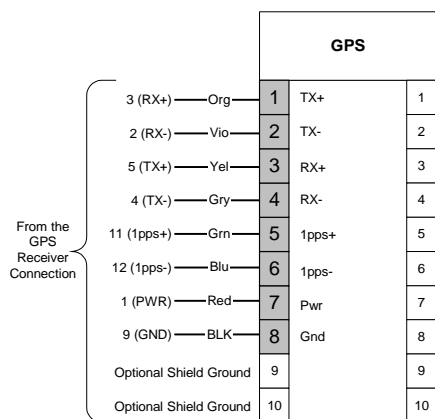

Figure 4–8 GPS Wiring Diagram
The GPS receiver and cables should already be installed as described above. For the locations of the GPS connectors, see “Installing the Daughter Cards” on page 4-5. Figure 4–8 shows the wiring connections to the GPS connector.
3. Connect the GPS cables to the GPS daughter card on the signal surge module as shown in Figure 4–8. For the location of the GPS daughter card see Figure 4–2.